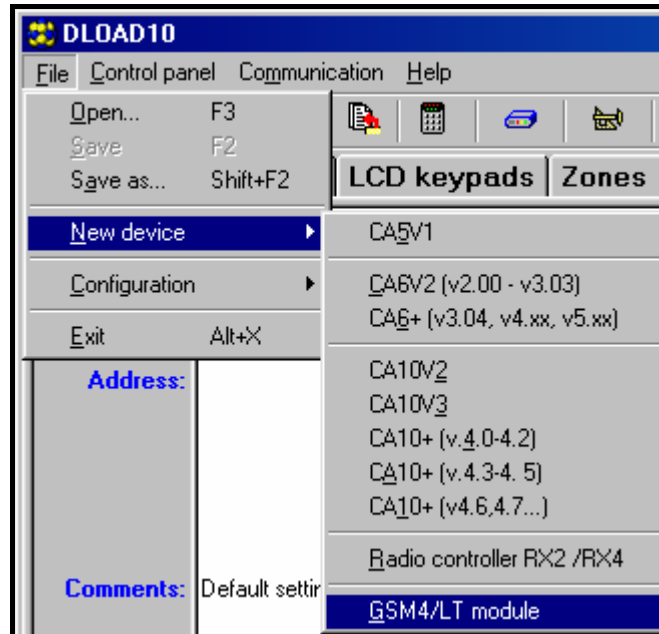

Figure 8.
1. Open the window with module data by selecting **File→New device→GSM 4/LT module** in the program menu (see figure 8).